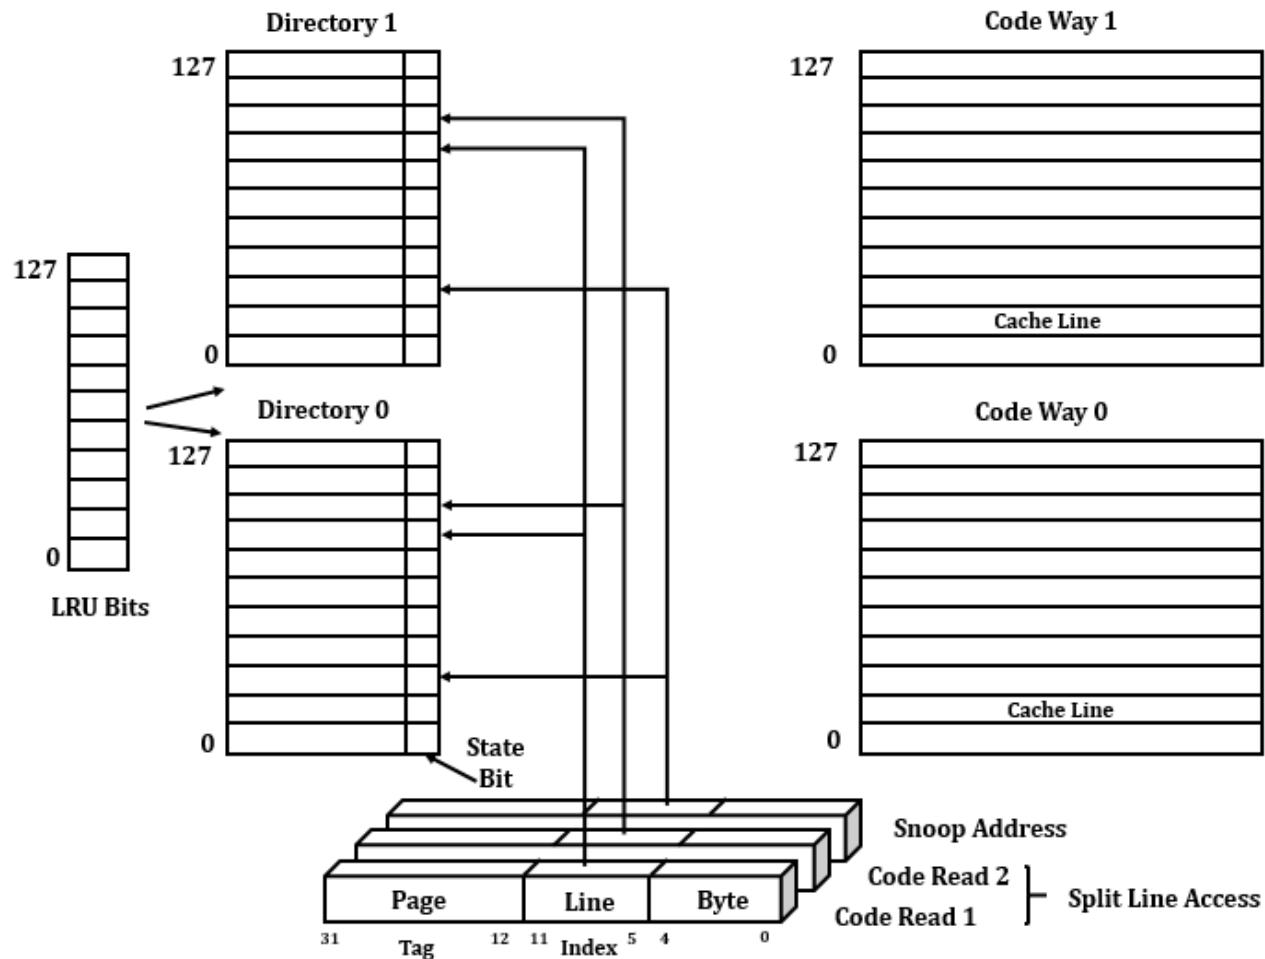

Figure 5.3: Pentium Code Cache Architecture.
3. Figure 5.3 shows Pentium Code Cache Architecture.